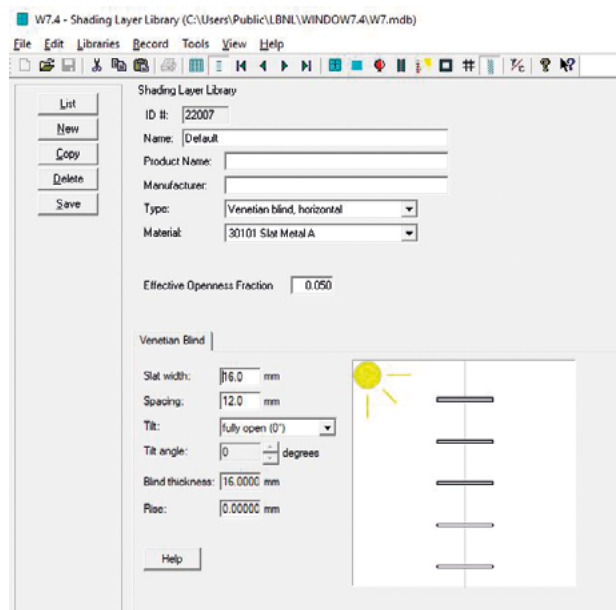

Figure 3: New Shading Layer Record
3. The new record you just created will show on the last line in the list. Double click on it and a new window will open up. See figure 3.